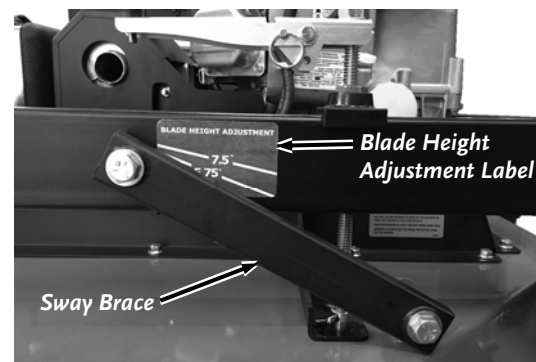

Figure 19
4. Rotate both Height Adjusters in the desired direction, switching sides about every ten full turns, until the top of the Sway Brace is aligned with the desired cutting height lines on the Height Adjust label. (**Figure 19**).